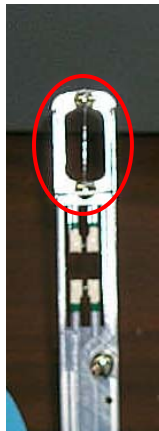

Figure 1: RS92 sensor boom (temperature sensor in red circle)
- 2) Inspect the temperature sensor visually for any damage (see Figure 1). If the temperature sensor is damaged in any way, do not use the radiosonde.